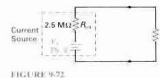

FIGURE 9-72
- What load current will be supplied by the current source in Figure 9-72 if R_1 is equal to: